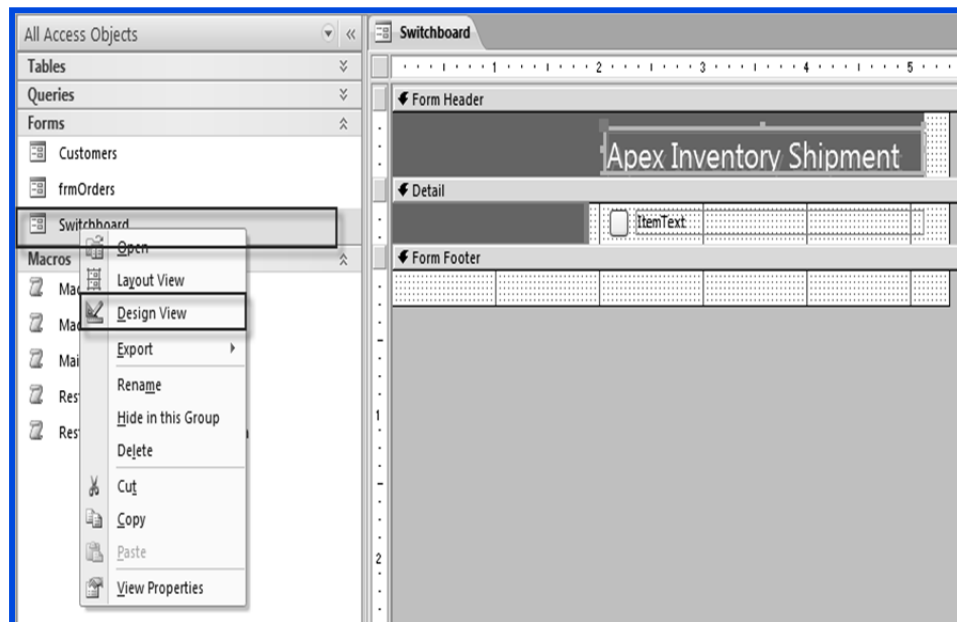

Fig. 4.3.16: Open Switchboard in Design View
1. Right-click the *switchboard* under *All Access Objects* -> *Forms* and select the *Design* view from the list to open the switchboard in the *Design* view. The *switchboard* appears, as shown in Fig. 4.3.16.